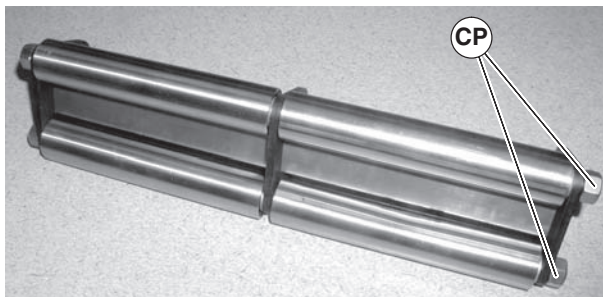

Figure 70
- Remove hex nuts (Figure 70, item CP).